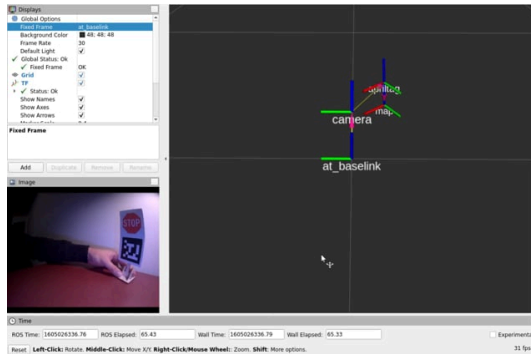

Figure 4.6. Example video deliverable for the AT localization package with compressed images
- A screen recording similar to the one in Figure 4.6 where you move the Apriltag in front of the robot from one side of the Field-of-View (FOV) to the other. Make sure